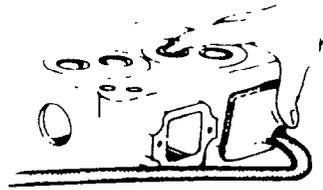

Fig. 41 — Installing Vacuum Test Line
- c. Install a vacuum line with a seal at the port opening (see fig. 41).